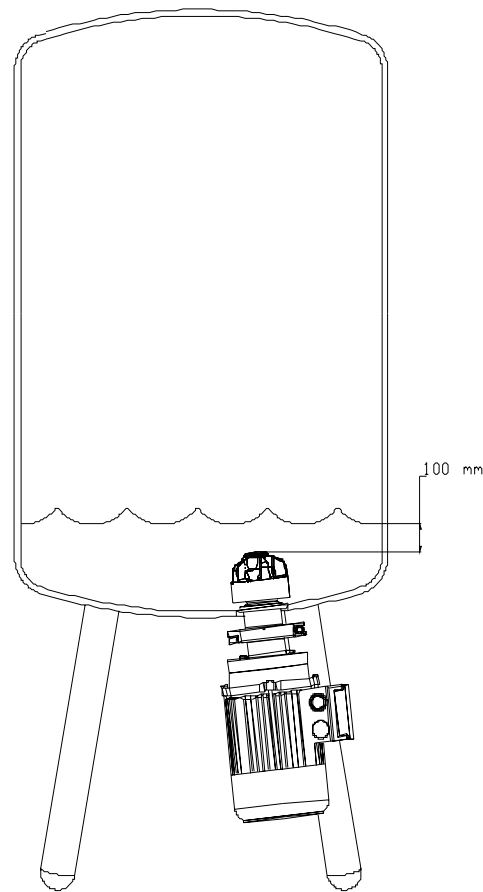

Fig.6.3.1.2
Always fill up enough liquid into the vessel and run the mixer before solid material or other substance is added. See fig 6.3.1.2.
2. During CIP, the Mixing Head must be submerged min 100 mm se Fig.6.3.1.2.